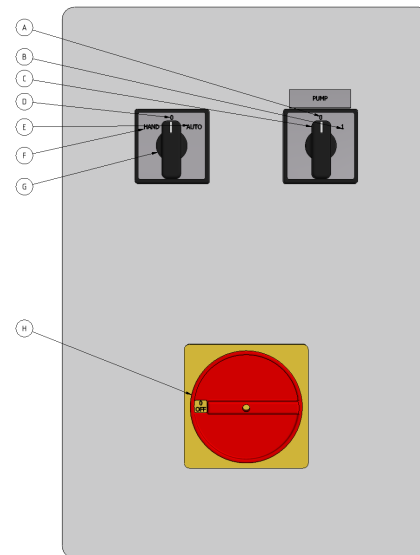

Figure 2.3 Switches in control cabinet (optional)
- ▶ Before carrying out maintenance work, the main power switch (see Figure 2.3) must be turned to the OFF (0) position and locked with a padlock.
The filter is equipped with a main power switch (see Figure 2.3). To perform an emergency stop, turn the main power switch to the OFF (0) position. In the event of a power failure, turn the main power switch to the OFF (0) position to prevent the filter drum from unintentionally rotating once the power is restored.